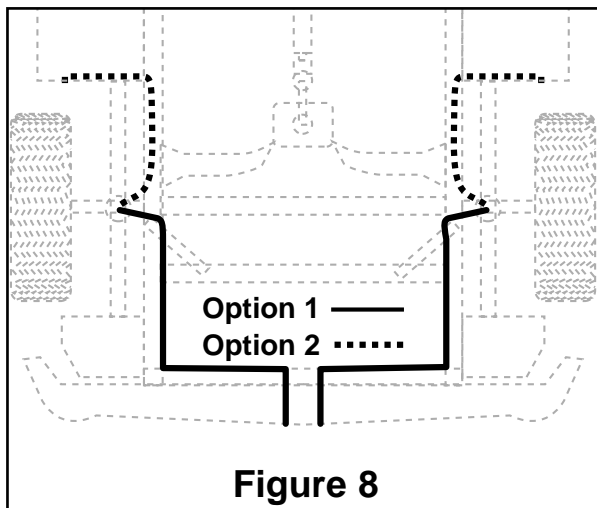

Figure 8
A. Select a location for the inflation valves in the rocker panel flange, or rear bumper, assuring that each valve will be protected and accessible with an air hose (Figure 8).